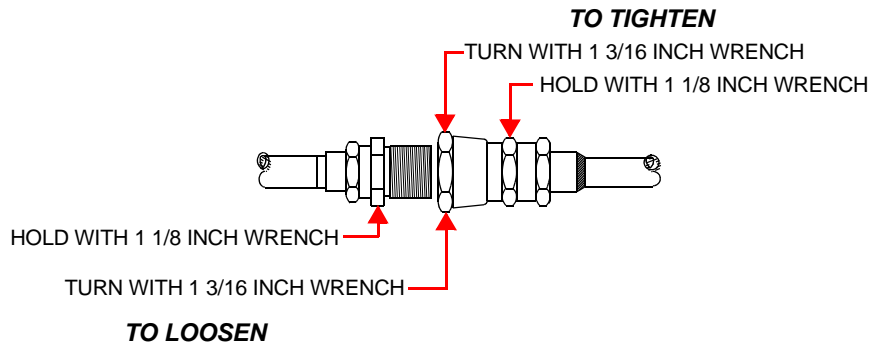
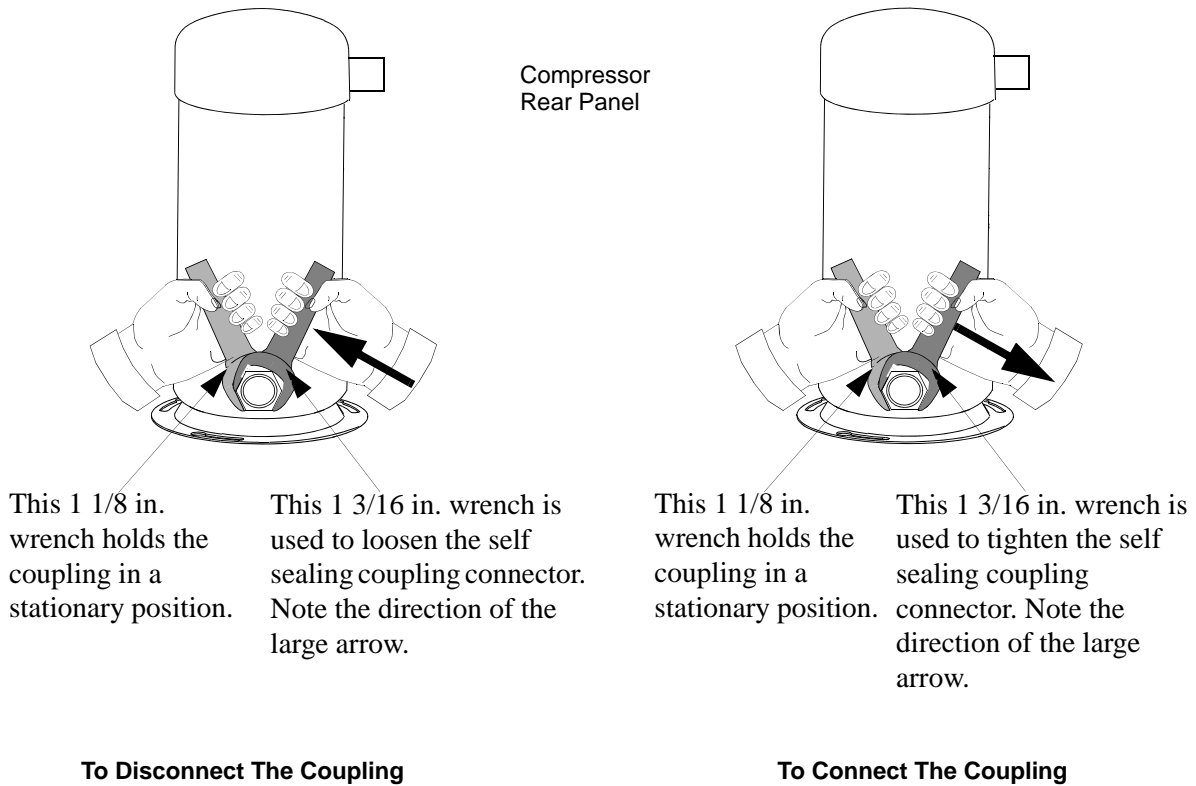

Figure 5-1: Adjusting the Self-Sealing Connectors
Figure 5-2: Disconnecting/Connecting the Adsorber Self-Sealing Coupling
6. Unscrew the two self-sealing coupling halves quickly to minimize gas leakage as shown in Figure 5-2 on page 5-3.
7. Disconnect the adsorber-inlet self-sealing coupling as shown in Figure 5-2 on page 5-3.
10. Remove the adsorber from the compressor as shown in Figure 5-2 on page 5-3.
2. Connect the adsorber to the compressor internal piping. Refer to Figure 5-2 on page 5-3.
CAUTION Equipment Damage To avoid damaging equipment, ensure you hold the left coupling nut while tightening the right coupling nut, as shown in <a href="#">Figure 5-2 on page 5-3</a> and <a href="#">Figure 5-1 on page 5-3</a> .
- b. Make the first turns by hand and then firmly seal the connection using the two wrenches until the fittings “bottom.” Refer to Figure 5-2 on page 5-3 and Figure 5-1 on page 5-3, for proper coupling of the self-sealing connection